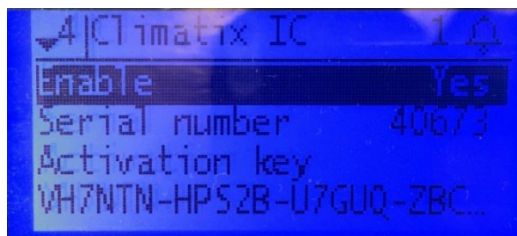

Figure no. 21
10. Check if **Enable** set to **Yes**. (see figure no. 21)